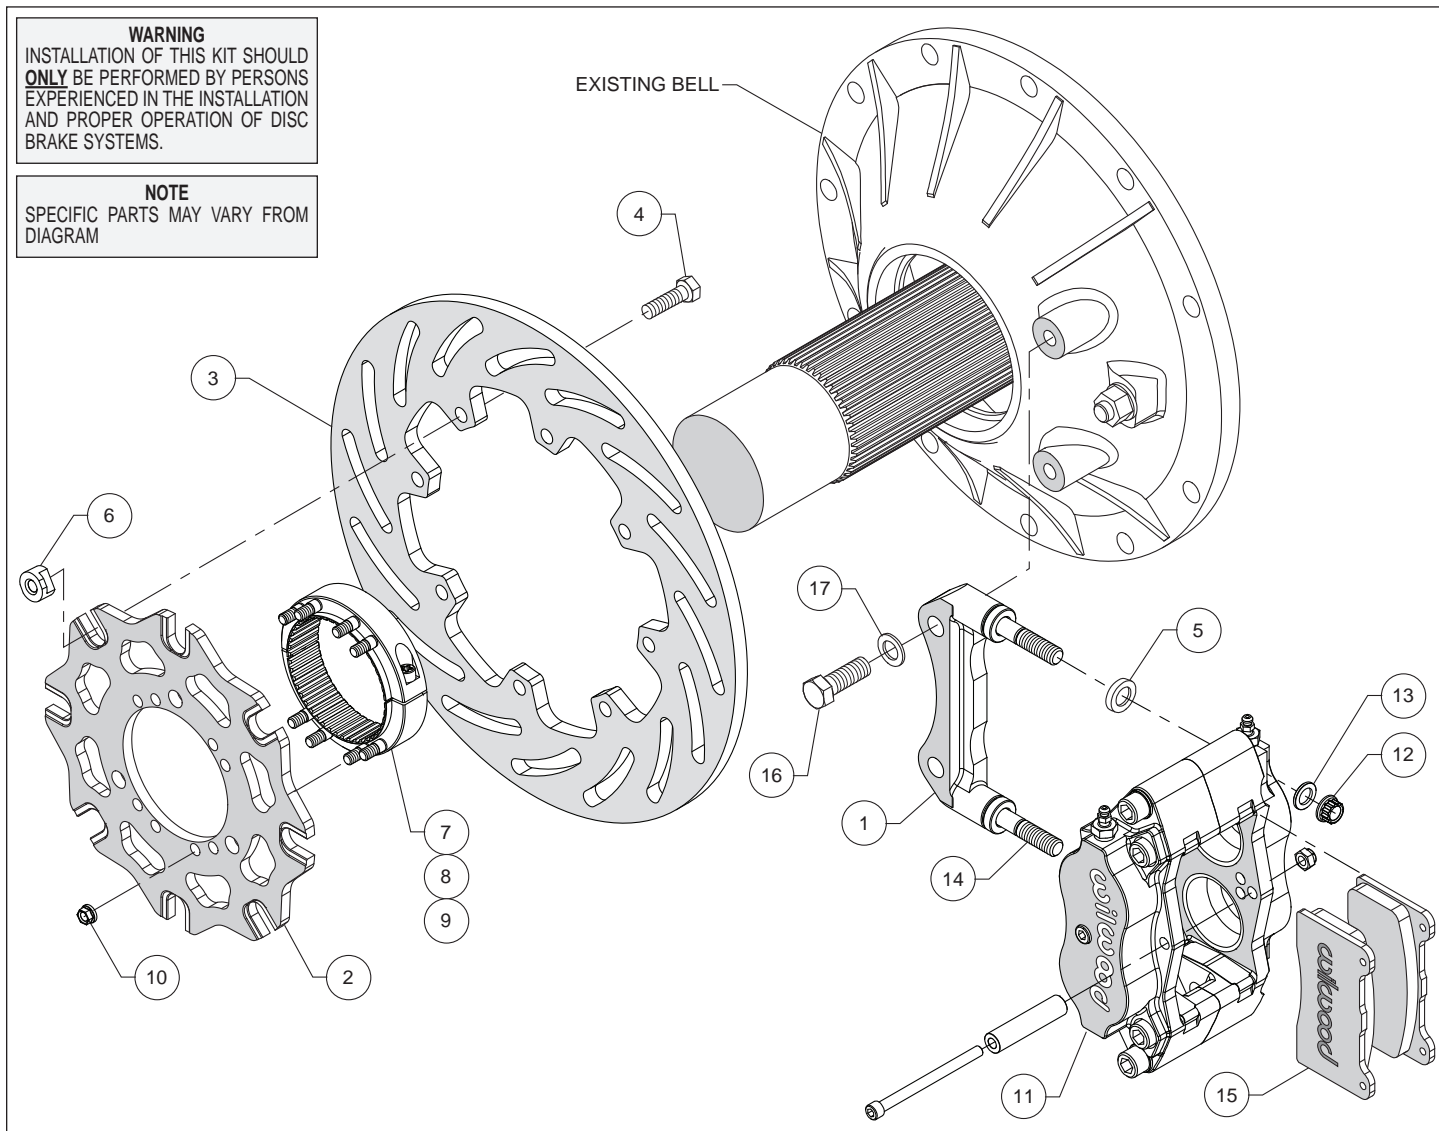

Figure 1. Typical Installation Configuration
Assembly Instructions (numbers in parenthesis refer to the parts list, and Figure 1 on the preceding pages): **CAUTION:** All mounting bolts must fully engage threaded holes.
- Orient the caliper mount bracket (1) as shown in Figure 1 and install using bolts (16) and washers (17). Temporarily tighten the mounting bolts. **NOTE:** The bracket must fit squarely against the mount bosses on the bell. Inspect for interference from casting irregularities, machining ridges, burrs, etc. Remove the bracket mounting bolts one at a time, apply red *Loctite*[®] 271 to the threads, and torque to 60 ft-lb.
- Orient the rotor adapter (2) and the rotor (3), as shown in Figure 1, and attach using bolts (4), and t-nuts (6), Figure 1. Apply red *Loctite*[®] 271 to the bolt threads before installing. Finger tighten. After all t-nuts have been installed, torque bolts in an alternating sequence to 220 **in-lbs**. Please refer to Wilwood's data sheet DS-669 (available at www.wilwood.com/Pdf/DataSheets/ds669.pdf) for complete t-nut bolt kit installation instructions. **NOTE:** Rotor adapter may be fix mounted to rotor (instead of floating mount) using customer supplied hardware.
- Orient the axle clamp assembly (7, 8 and 9, pre-assembled) as shown in Figure 1 and install onto the rotor adapter (2) using nuts (10). Tighten nuts part way while still allowing clamp-to-adapter movement. The nuts will be torqued later, after aligning the rotor. **NOTE:** *The axle clamp should be positioned inside of the rotor as shown, not offset, or outside of the rotor adapter.*
- Lubricate the caliper mounting studs (14) with lightweight oil. Place one spacer (5) on each stud as shown in Figure 1. Mount the caliper (11) onto the bracket (1) using lock nuts (12) and washers (13), Figure 1. Temporarily tighten the lock nuts and view the rotor through the top opening of the caliper. The rotor should be centered in the caliper. If not, slide the rotor/adapter assembly on the axle until the rotor is centered in the caliper. Tighten the clamp bolts (9) first, locking the clamp to the axle. Torque nuts (10) to 140 **in-lbs**. Torque the caliper lock nuts (12) to 30 ft-lb.
- Remove the caliper center bridge pad retainer bolt, nut, and tube from the caliper. Insert the brake pads (15) into the caliper, with the friction material facing the rotor. Secure the brake pads in place with the center bridge pad retainer tube, bolt, and locknut. The locknut should be snug without play in the bolt or tube. Be cautious not to over tighten.